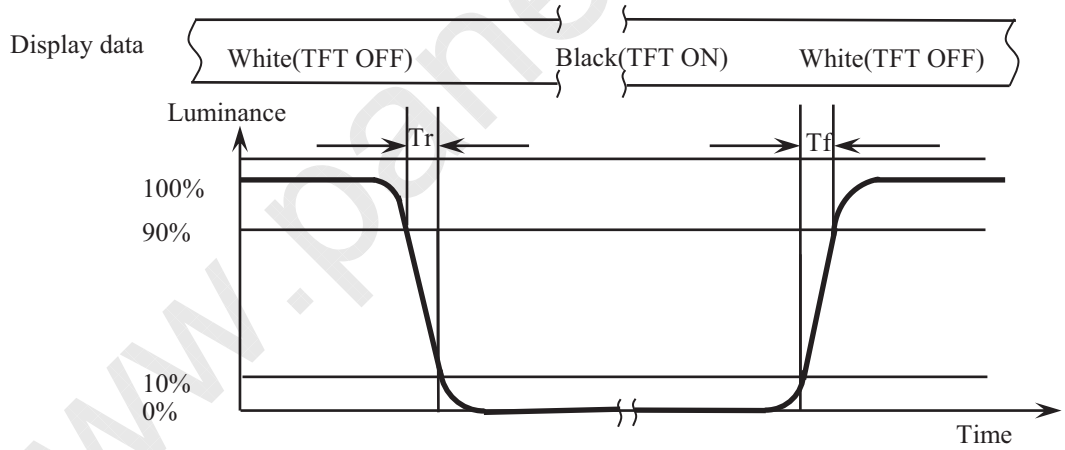

Figure 10. Response Time Testing
- The electro-optical response time measurements shall be made as Figure 10 by switching the "data" input signal ON and OFF. The times needed for the luminance to change from 10% to 90% is Tf, and 90% to 10% is Tr.
The electro-optical response time measurements shall be made as shown in Figure 10 by switching the “data” input signal ON and OFF. Tr: The luminance to change from 90% to 10% ,Tf: The luminance to change from 10% to 90% .